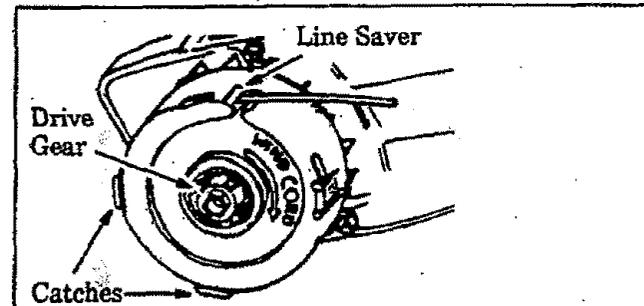

Figure 13
- f. Insert 3 to 4 inches of the end of the line (on the spool) through the Line Saver in the Hub. Figure 13.